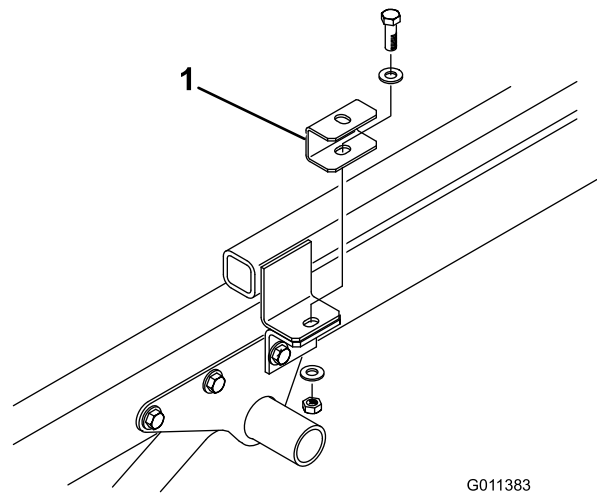

Figure 7
4. Secure a spacer mount to top of each hitch frame tab with the capscrew, (2) flatwashers and locknut previously removed (Figure 7).
5. Position TopDresser onto vehicle frame, aligning holes in rear mounting brackets with holes in each side of frame (Fig. 7).